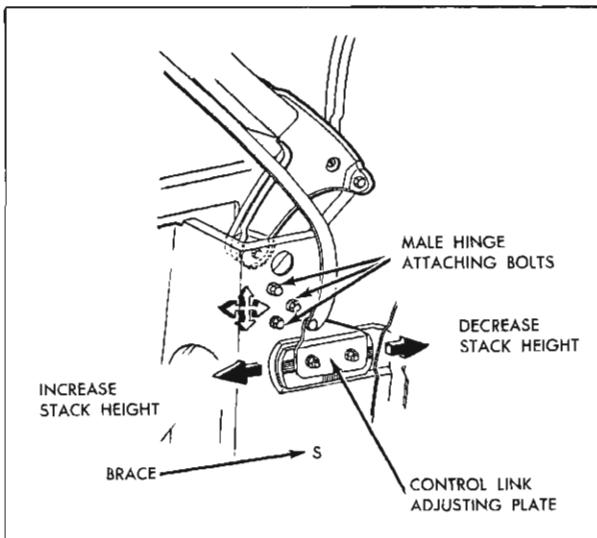
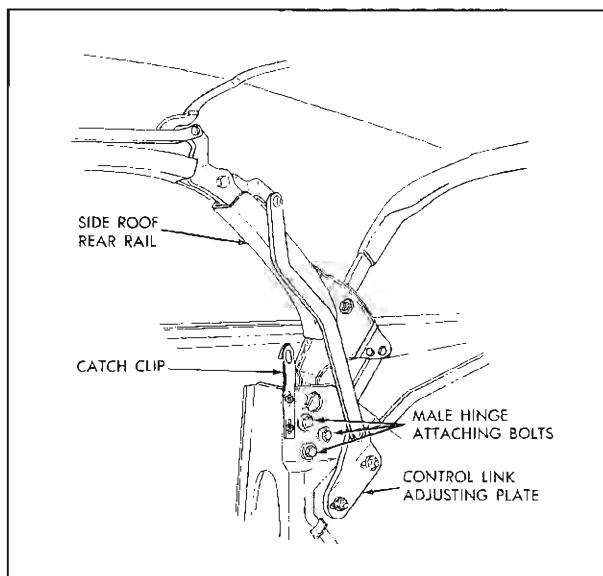

Fig. 21-25 View "C" Fig. 21-21 (Pontiac)
Fig. 21-26 View "C" in Fig. 21-21 (Tempest)
- c. Loosen two bolts securing control link adjusting plate sufficiently to permit adjustment of plate. On Pontiac styles Fig. 21-25; on Tempest styles see Fig. 21-26.
- Loosen three male hinge assembly attaching bolts. On Pontiac styles Fig. 21-25, on Tempest styles Fig. 21-26.
b. Loosen male hinge assembly attaching bolts. On Pontiac styles see Figure 21-25; on Tempest styles see Figure 21-26.